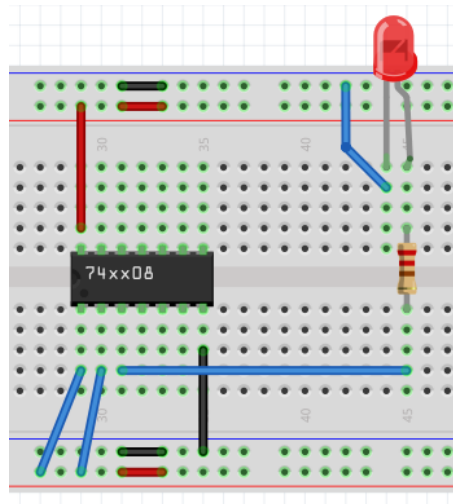

Figure 17
15. Connect input **A** of the first AND gate (**pin 1**) to **5V** (logic 1) as shown by the diagonal blue wire in Figure 17.
16. Connect input **B** of the first AND gate (**pin 2**) to **5V** (logic 1) as shown by the diagonal blue wire in Figure 17.